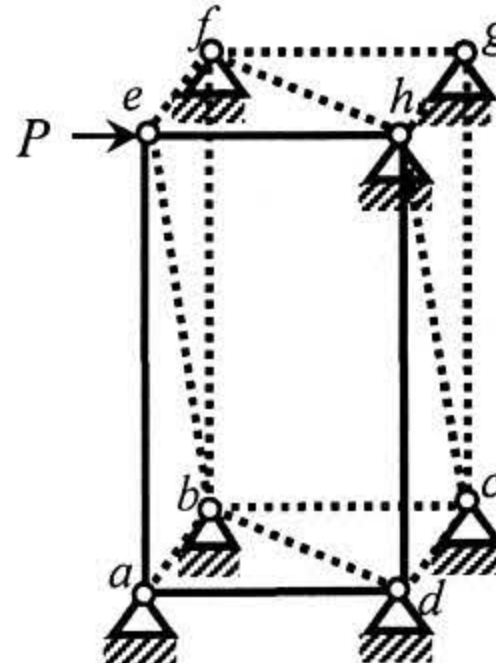

Fig.3
- a. Ignore zero-force members and apply boundary conditions to form the stiffness matrix of the space truss abcdefgh as shown in Fig.3 [Given: $S_x = \text{constant} = 10^4$ N/mm; Nodal Coordinates (m) are $a(0,0,0)$, $b(0,0,-2)$, $c(4,0,-2)$, $d(4,0,0)$, $e(0,10,0)$, $f(0,10,-2)$, $g(4,10,-2)$, $h(4,10,0)$] **[10 marks]**